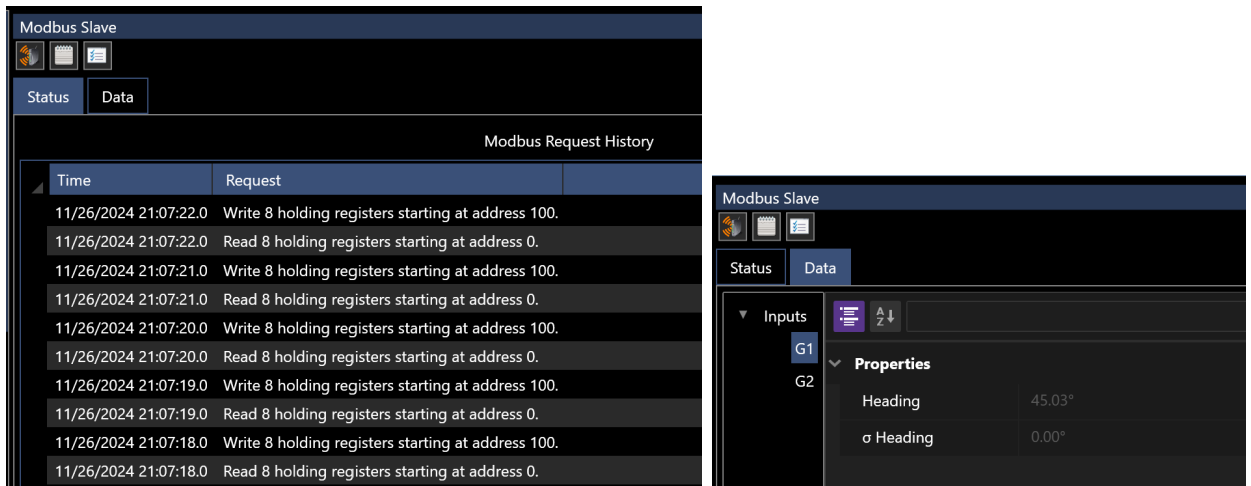

Figure 11 Modbus Slave Input/Output Monitoring
2. Modbus Slave (see Figure 11)